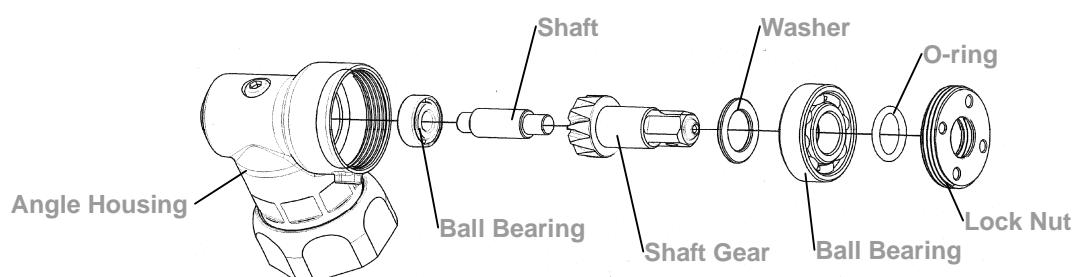

Fig. 439
**(8) Angle Housing Unit Assembly:**
① Assemble the parts in Fig. 439 one by one orderly into the angle housing. Then, fix the angle housing unit.